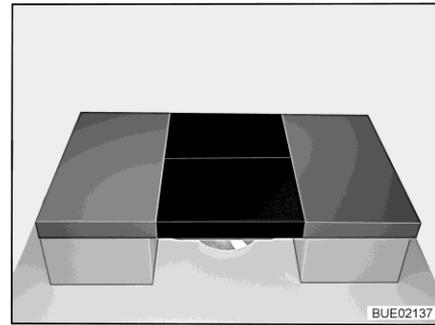

Fig. 168 After conversion
- Place two additional cushions on the table (see Fig. 168).